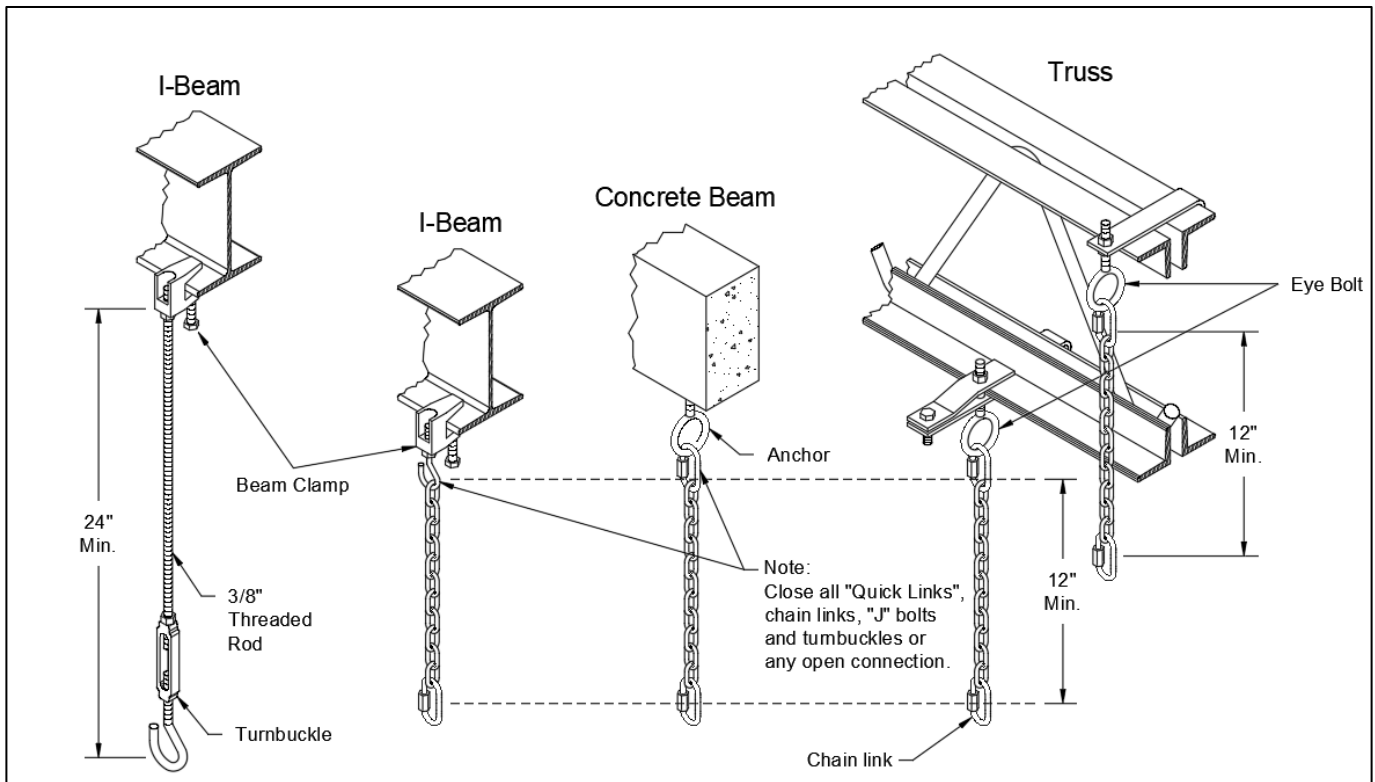
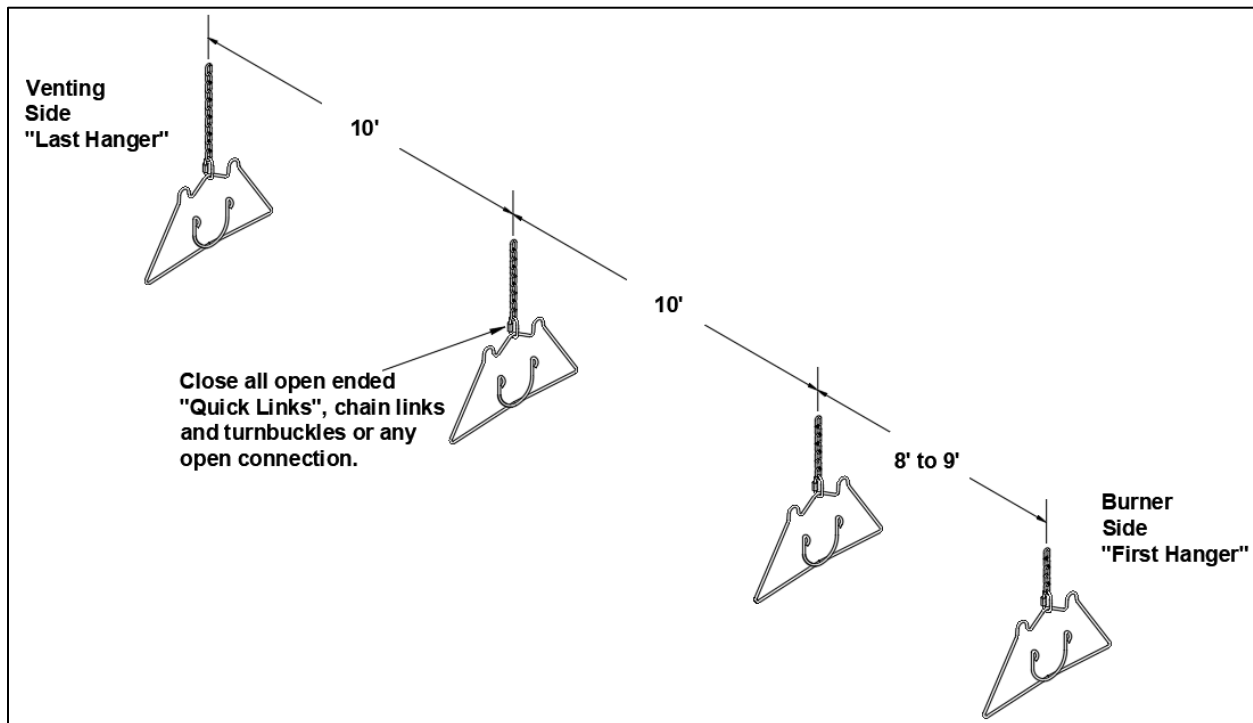

Figure 6: Suspension Mechanism
Figure 7: Typical Hanging Points
- Suspension mechanism must allow for lateral tubing expansion. A minimum 12" length welded link chain with a working load limit of at least 200 lbs. is recommended (refer to Figure 6 for more details). SRP recommends and make available "quick links" for connecting chain. If any open ended turnbuckles are used, the open ends must be closed to avoid unhooking chain with inadvertent contact.
- Locate hanging chain at predetermined suspension points in the structure. It is required that the first 2 hangers be about 8' to 9' away. Thereafter, 10' apart on average is acceptable for the remainder of the heat exchanger. At no time should hangers be more than 12' apart, (see Figure 7).
- Install the tube and reflector support hanger on the chain with “Quick Links” refer to Figure 6 & Figure 7